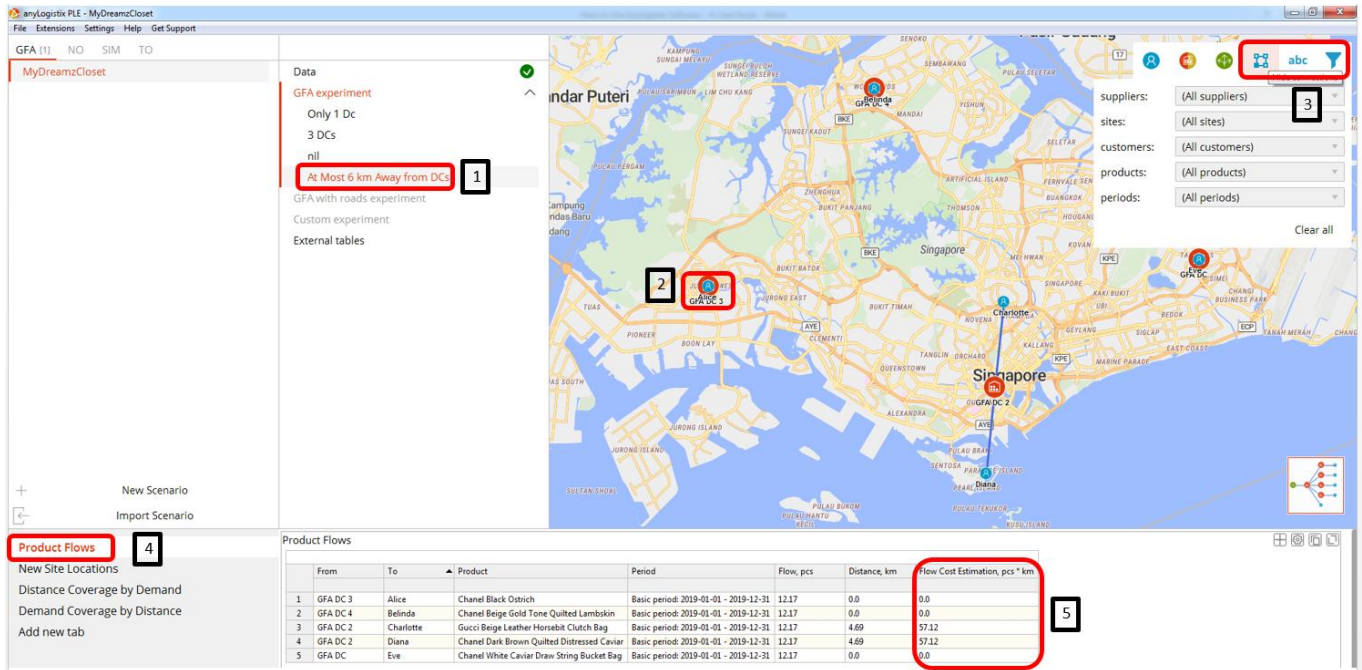

Figure 42: Case 3 with 4 DCs
- ✓ Figure 42 shows Case 3 with four DCs, the result of the GFA Experiment.